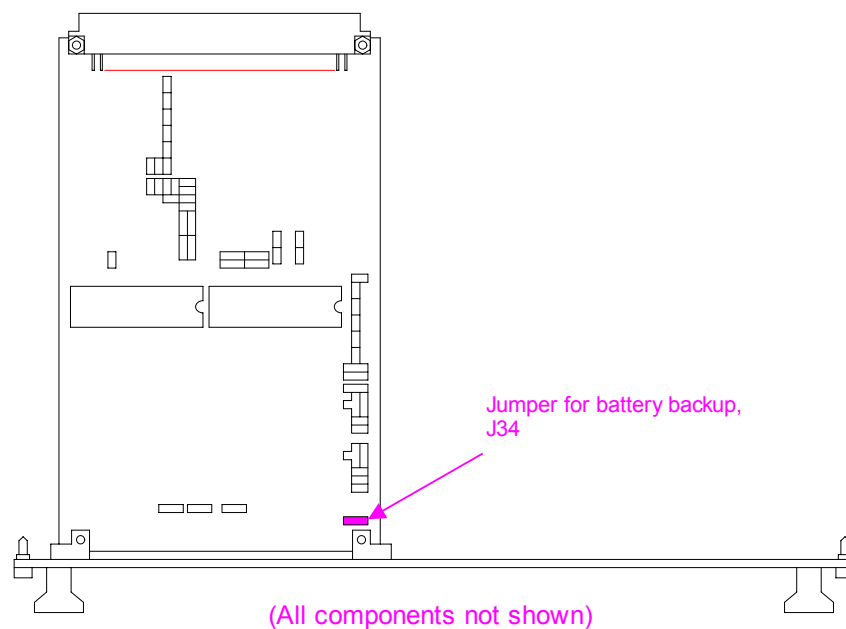

Figure 9. DCP Memory Board
- (1) Pull the DCP memory board, 2A1A2A3, and remove the J34 jumper from the memory board for at least five minutes. This will allow the memory chips to completely drain. Refer to Figure 9.